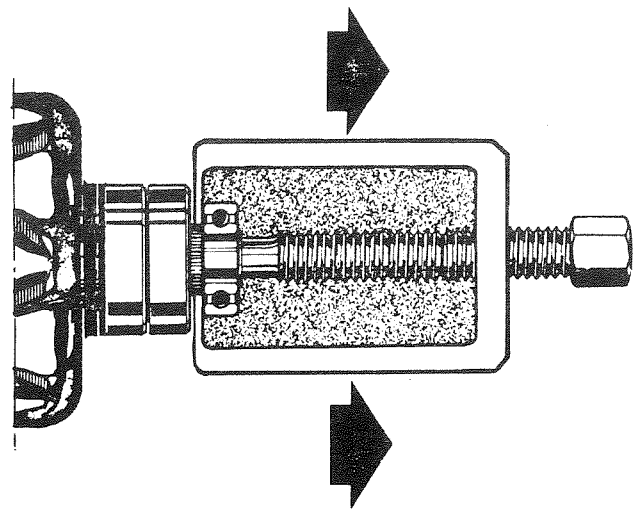

FIG. 4-41 REMOVE REAR BEARING
**REMOVE REAR BEARING FROM ROTOR** — Figure 4-41 illustrates removal of rear bearing from rotor shaft.